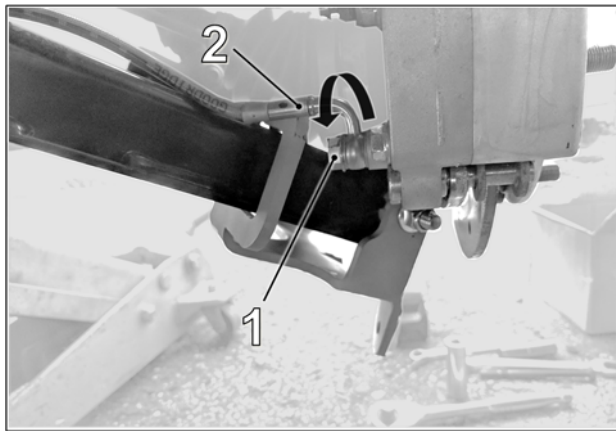

Fig. 11
CAUTION: You may have to loosen the brake line's banjo bolt (1) and pivot the elbow fitting (2) forward, just enough to prevent any potential contact with the back end of anchor bracket. Do not forget to tighten the banjo bolt back down. See Fig. 11